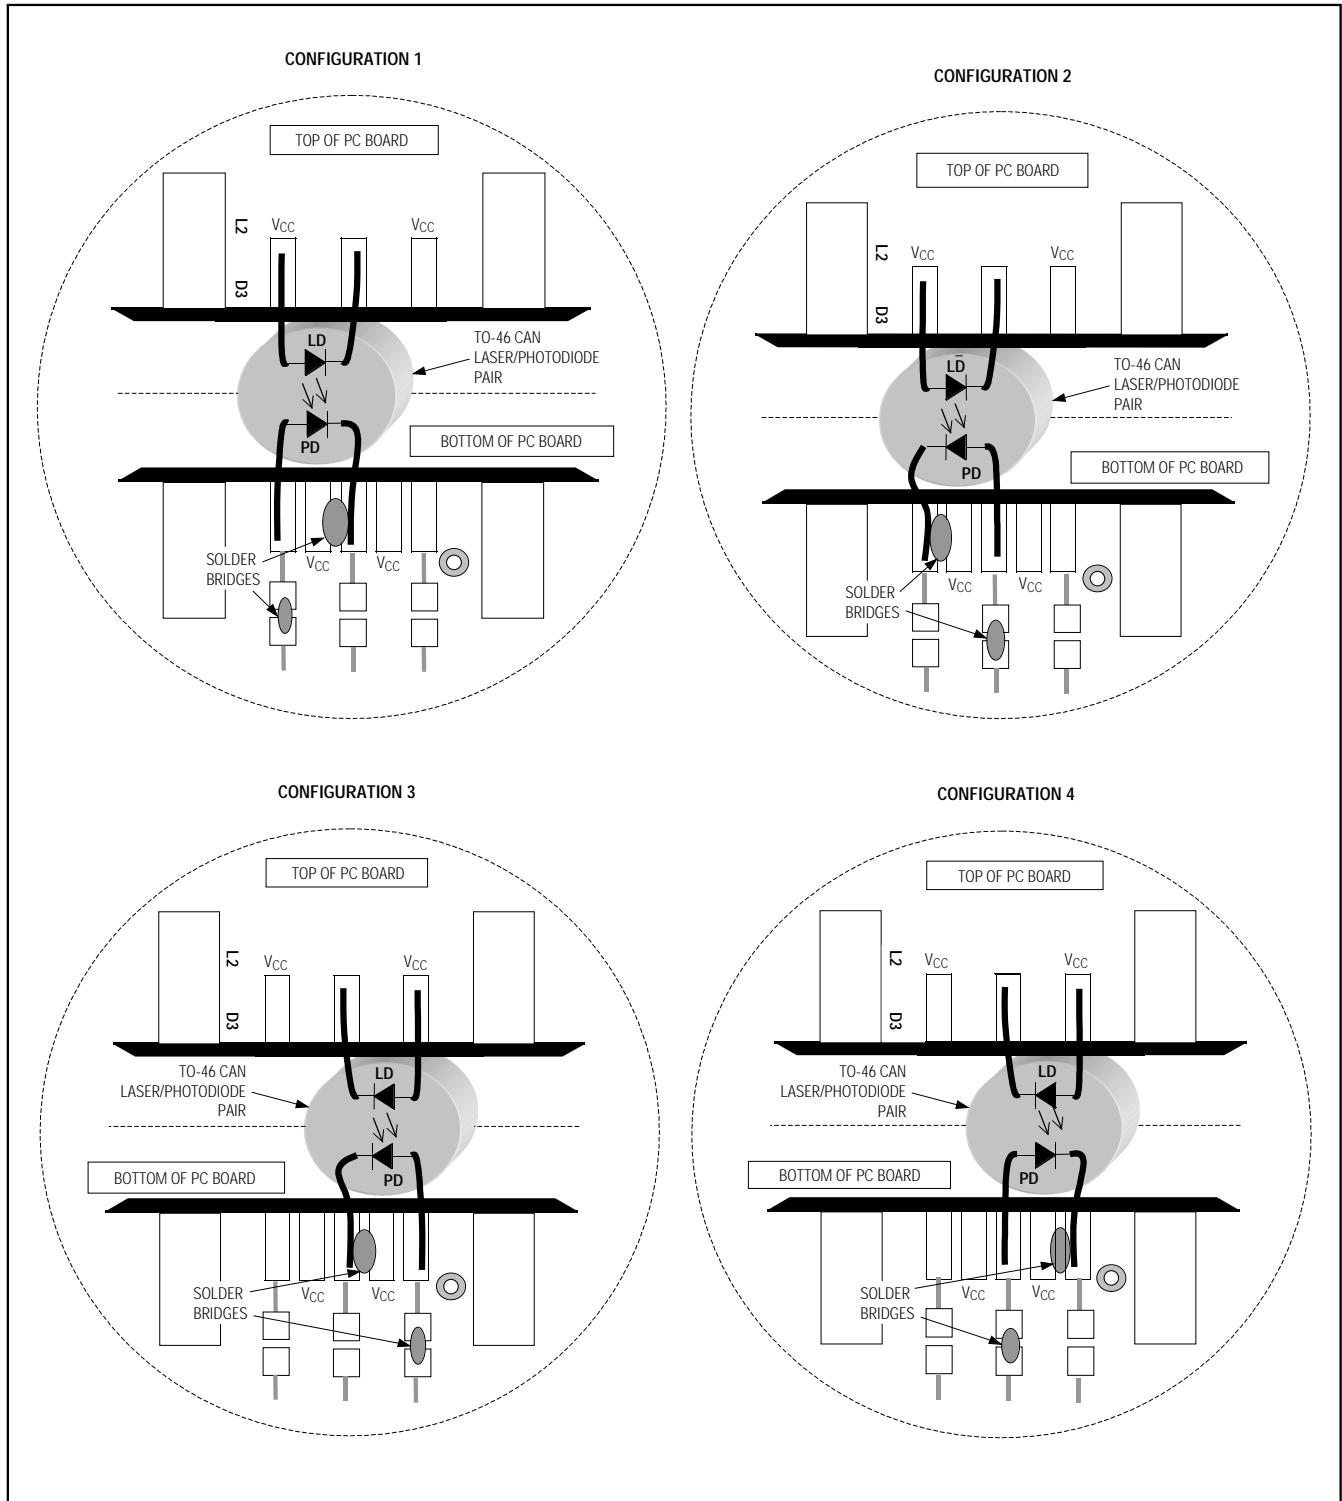

Figure 1. Attachment of Laser Diode/Monitor Diode to MAX3669 EV Kit
- 2) Connect a TO-style header laser and monitor diode (Figure 1) as follows:
\* TO PHOTOLASER (SEE FIGURE 1 FOR